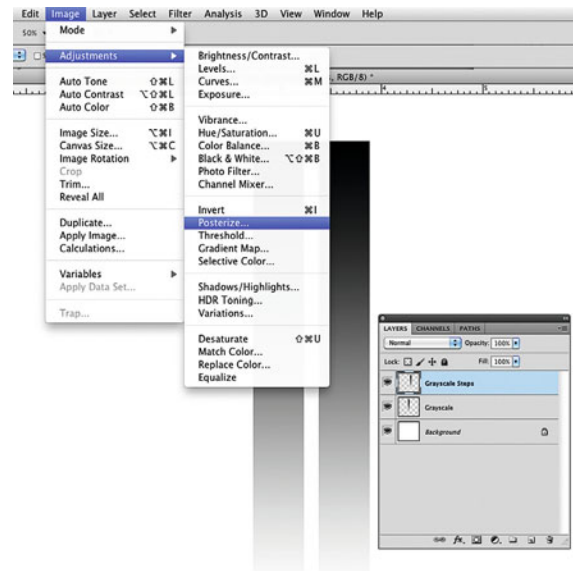

FIGURE 3.21 Selecting Posterize in Image > Adjustments in Adobe Photoshop for creating grayscale steps.
- Click on **Image** in the menu bar and drag down to **Adjustments** and then **Posterize**, as seen in Figure 3.21.